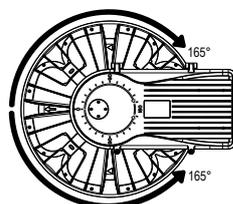
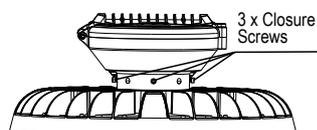

Figure 4
Figure 5
- The direction of light projection can be adjusted by turning the radiator (165° left and right) (Figure 4). Before turning, you need to loosen the three screws shown in (Figure 5), and then tighten the screws after adjusting the projection direction.